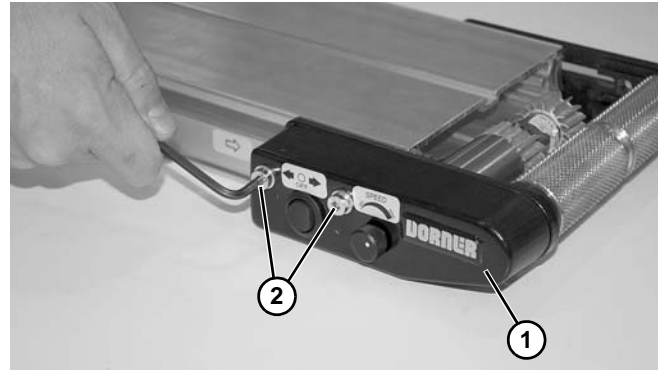

Figure 117
2. Remove inframe drive side cover (**Figure 117, item 1**) by removing two head plate fastening screws (**Figure 117, item 2**).